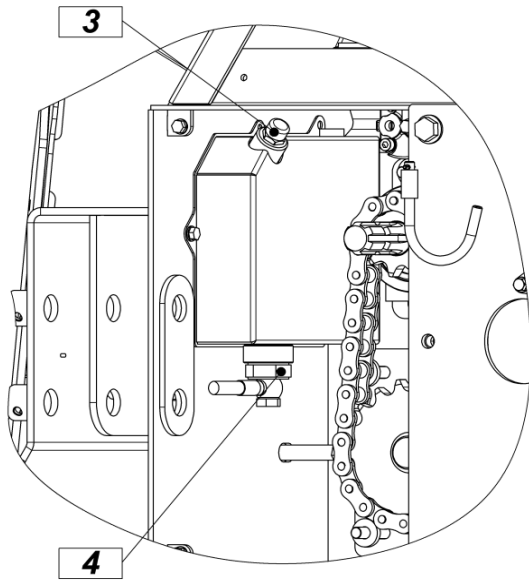
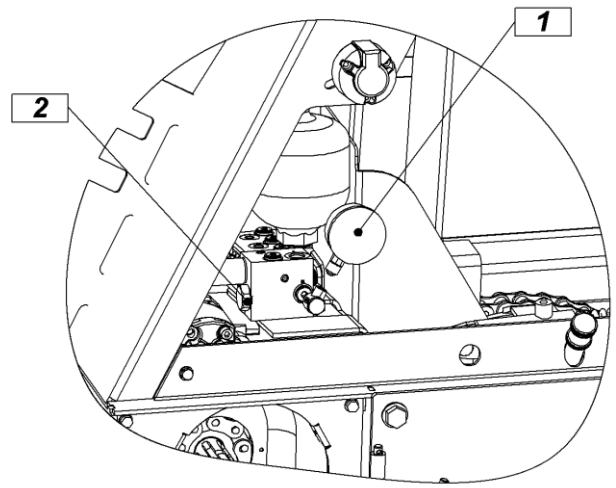

Figure 13
Figure 14
Oil level is controlled with stick on the tank cover (fig. 13). Here you also fill in oil.
With any work on the hydraulic system, pressure in the system must be released. Do this by pressing the left button on the control console (pos. 1, fig. 8) several times, until the pressure drops to 0 bar (pos. 1, fig. 14).
Remove the triangular protection on the winch pillar and cardan protection beforehand. Release the oil from the tank (fig. 13) on the tube, which goes from the pump to the tank. There is a filter on the bottom of the tank, which must be replace with every oil change. High-pressure filter (pos. 2, fig. 14) must also be cleaned.